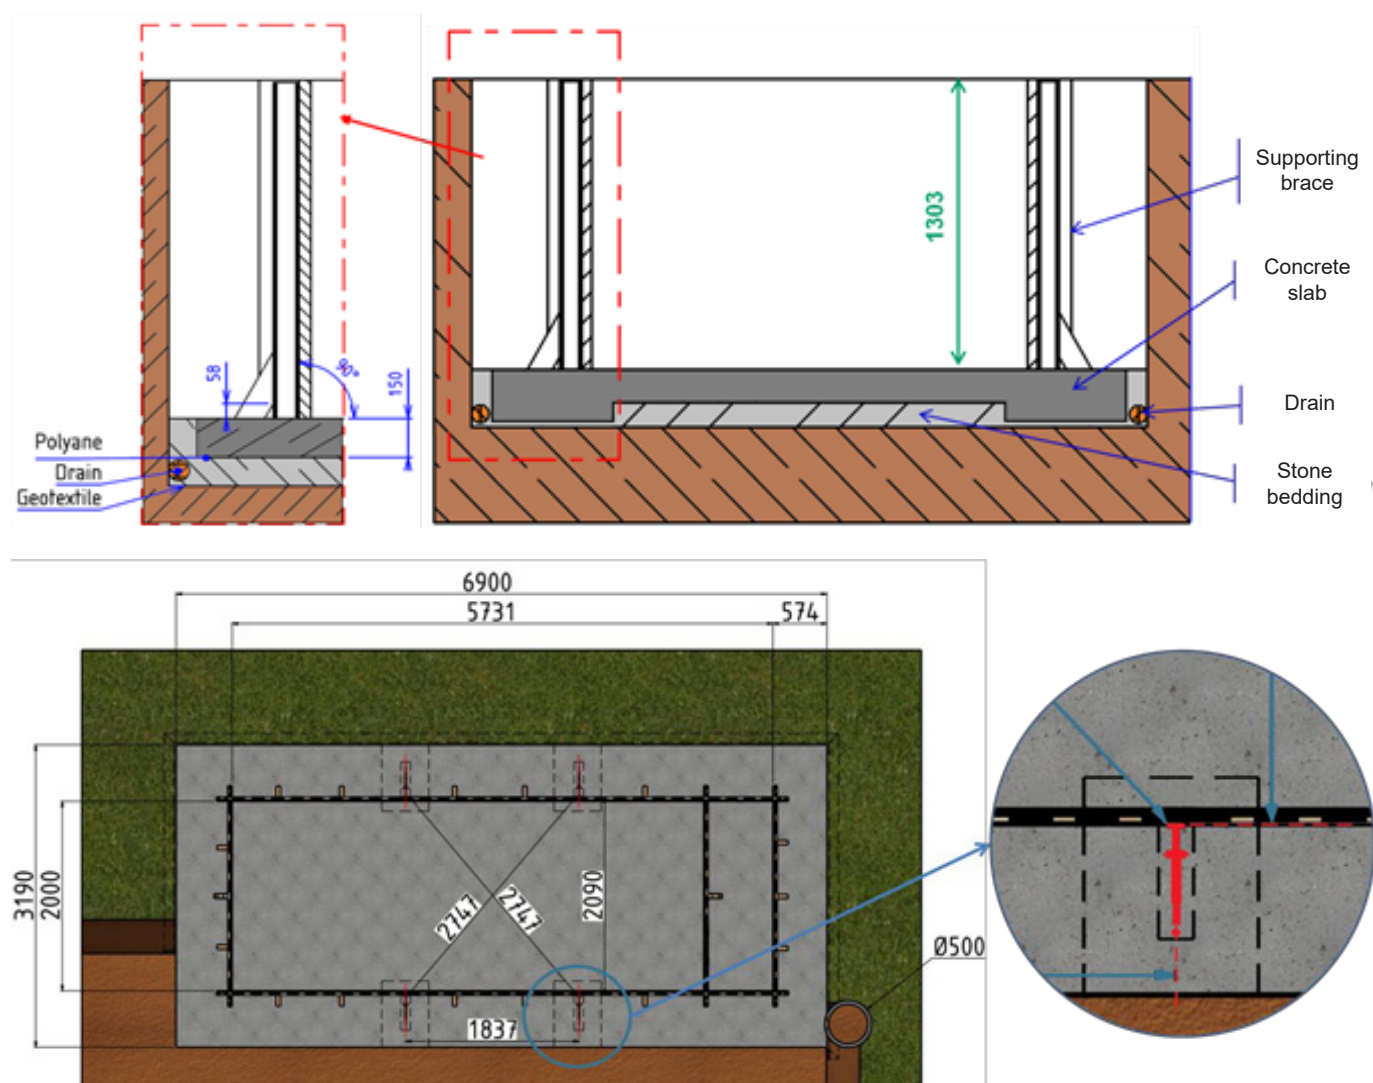

Figure 4 – Location of the supporting braces
TIP: You can use the supporting braces to visualise how high the concrete slab should be once it has been poured. To do this, taking the top of the pool wall, below the coping, as level 0 (underneath the coping, see Figure 4), measure 1.303 m and mark this distance on the front of the supporting brace. This mark will correspond to the height of the finished concrete slab.
- ❗ Check that all the dimensions quoted in Figure 4 are correct before proceeding with the next step.